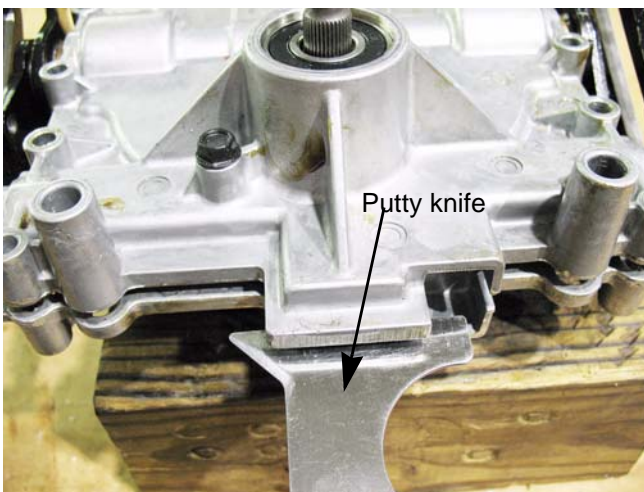

Figure 6.63
21. Using a putty knife or something similar, compress the spring into the wear block while gently pressing down on the cover. See Figure 6.63.